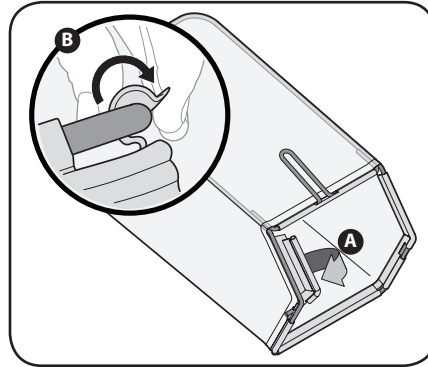

**Figure 2-5**
**NOTE:** On select units, use the two cable clips provided to secure blade control and drive cables to lower handle as shown in Figure 2-5.